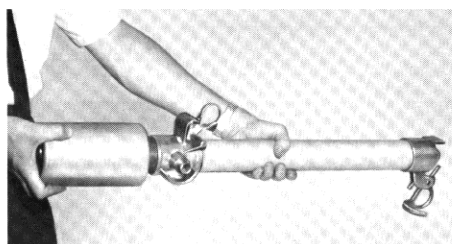

Figure 2
Step 2: Unscrew discharge filter or condenser from bottom of fuse holder. (Fig. 2.)
Step 6: Screw discharge filter or condenser into bottom of fuse holder until it is tight, (Fig. 2) up against the fuse refill.